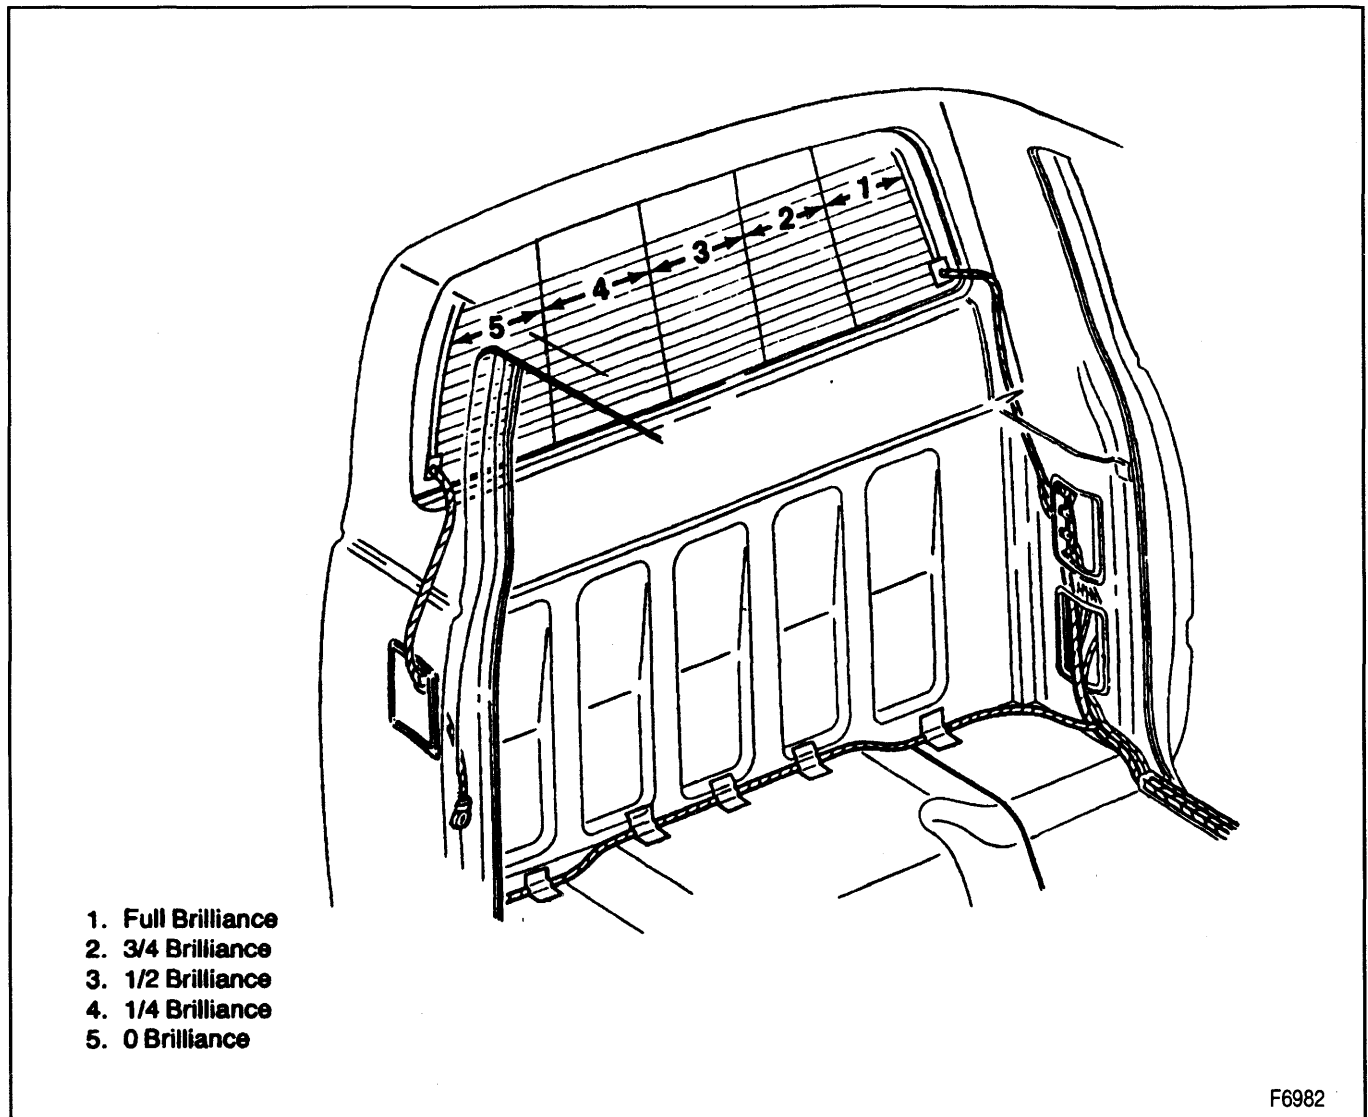

Figure 13—Test Lamp Brilliance Zones - Normal Operating Rear Window
- Move the lamp from the feed wire side to the grounded side of each grid. The lamp should be fully bright then gradually dim as it is moved across the grid. Be sure to check each grid line in at least two places to avoid the possibility of bridging a gap (figure 13).